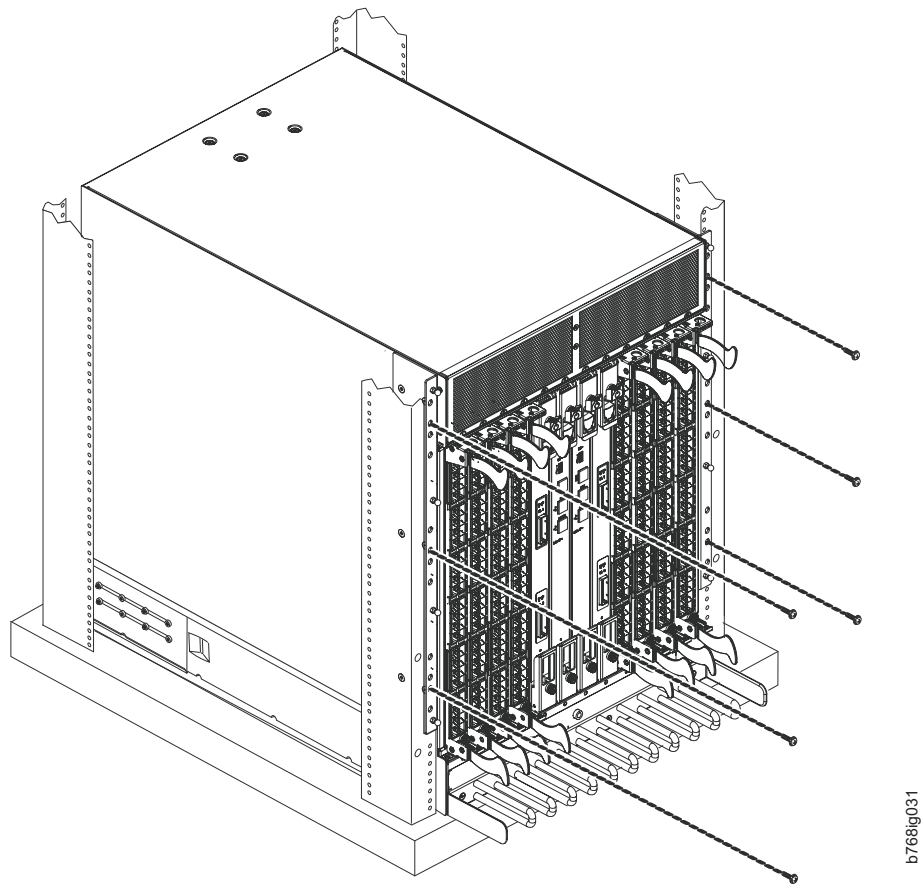

Figure 9. Attaching the port side of the chassis to the cabinet rails
20. Fasten the port side of the chassis to the cabinet rails. Use three 10–32 x 5/8-in. Phillips panhead screws with washers **C** on each side to attach to the clip nuts (**D**) or retainer nuts (**F**) installed on the rails earlier. Tighten the screws to a torque of 37 cm·kg (32 in·lb). See Figure 9 for the approximate location of the screws.
5. Remove the three 10-32 x 5/8 in. Phillips panhead screws with washers on each side. See Figure 9 on page 26 for the location of the screws.